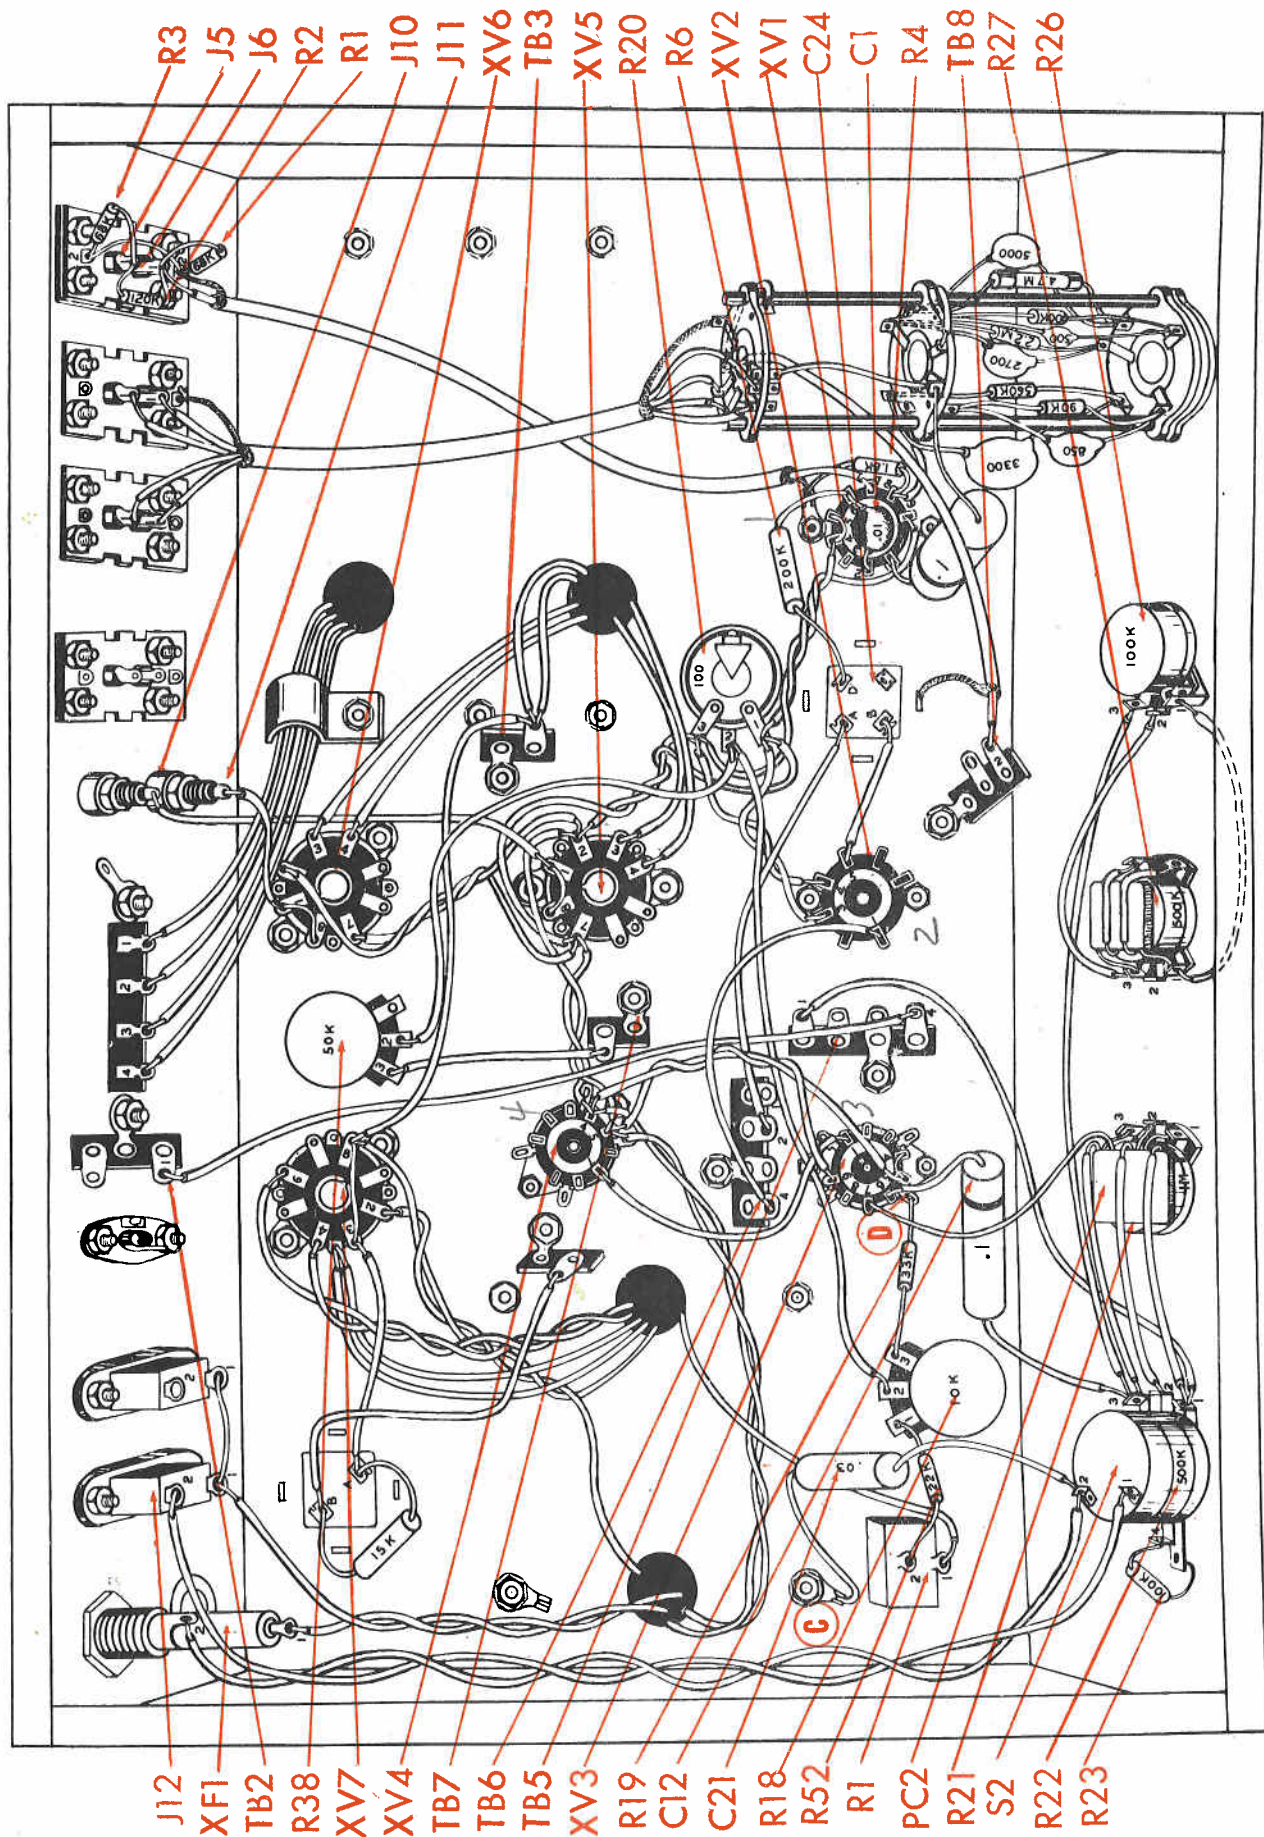

Fig. 5
1. (✓) Fig. 5. Connect an 8" yellow lead from R18-2 (C) to R20-2 (C). X
2. (✓) Fig. 5. Connect a 6 1/2" yellow lead from R20-2 (S) to R38-2 (S). X
3. (✓) Fig. 5. Connect a 4" green lead from XV3-1 (C) to XV4-7 (C). X
4. (✓) Fig. 5. Connect a 3" green lead from R38-3 (C) to TB7 (C). X
5. (✓) Fig. 5. Connect a 3" yellow lead from J10 (S) to XV5-1 (C). X
6. (✓) Fig. 5. Connect a 2" yellow lead from J11 (C) to XV6-1 (C). X
7. (✓) Fig. 5. Connect a 3/4" piece of bare wire from XV6-1 (S) to XV6-8 (S). X
8. (✓) Fig. 5. Connect a 3/4" piece of bare wire from XV5-1 (C) to XV5-8 (S). X
9. (✓) Fig. 5. Connect a 2" red lead from XV2-5 (S) to C24B (C). X
10. (✓) Fig. 5. Connect an 7" green lead from R22-1 (C) to TB5-1 (C). X
11. (✓) Fig. 5. Connect an 8" green lead from R22-3 (C) to R26-3 (S). X
12. (✓) Fig. 5. Connect one end of a 10" black lead to S2-1 (S) and one end of a 9" grey lead to S2-2 (C). Twist the leads. Connect the other end of the black lead to J12-2 (C) and the other end of the grey lead to XF1-2 (C). X
13. (✓) Fig. 5. Connect a 100KΩ (brown, black, yellow, silver) 10% resistor, R23, from R22-4 (S) to pot ground lug "B" (S). Cut both leads to 1/2". X
14. (✓) Fig. 5. Connect a .03 mfd (orange, black, orange, black, blue) molded capacitor, C21, from S2-2 (S) to ground lug "C" (S). Cut both leads to 1 1/4". Use spaghetti. Condenser gets placed vertically in chassis. X
15. (✓) Fig. 5. Connect a 1 mfd (brown, black, yellow, white, yellow) 400 volt molded capacitor, C12, from R22-3 (C) to XV3-6 (C). Use spaghetti on the 1 1/2" lead to R22. Cut the other lead to 1" using spaghetti. X
16. (✓) Fig. 5. Connect a 22KΩ (red, red, orange, silver) resistor, R52, from R18-1 (S) to CR1-2 (C). Cut both leads to 3/4". X
18. (✓) Fig. 5. Connect a 4" green lead from R27-3 (S) to R26-2 (S). X
19. (✓) Fig. 5. Connect a 4" black lead from R26-1 (C) to R27-1 (C). X
20. (✓) Fig. 5. Solder the ground lug under R26 to R26-1 (S). X
21. (✓) Fig. 5. Connect a 1800Ω (brown, grey, red, silver) resistor, R4, from XV1-8 (C) to ground lug "D" (C). Cut both leads to 1/2". (D)?
22. (✓) Fig. 5. Cut an 8" length of single conductor shielded wire. On both ends, strip the outer insulation back 3/4", twist shield braid strands, strip the inner insulation back 1/4". Connect one end of the inner wire to XV1-7 (S) and one end of the braid to ground lug "D" (S). Connect the other end of the inner wire to J6-1 (C) and the braid to J6-2 (C). X
23. (✓) Fig. 5. Connect a 2" black lead from J6-2 (C) to J5-2 (C). X
24. (✓) Fig. 5. Connect a 68KΩ (blue, grey, orange, silver) resistor, R1, from J6-2 (S) to J6-1 (C). Cut both leads to 1/2". X
25. (✓) Fig. 5. Connect a 120KΩ (brown, red, yellow, silver) resistor, R2, from J6-1 (S) to J5-1 (C). Cut both leads to 1/2". X
26. (✓) Fig. 5. Connect a 68KΩ (blue, grey, orange, silver) resistor, R3, from J5-1 (S) to J5-2 (S). Cut both leads to 1/2". X
27. (✓) Fig. 5. Connect a 200KΩ (red, black, yellow, gold) resistor, R5, from XV1-6 (C) to C24D (C). Cut both leads to 1". X
28. (✓) Fig. 5. Connect a .01 mfd disc capacitor, C1, from XV1-6 (S) to XV1-2 (C). Cut both leads to 1/2". X
29. (✓) Fig. 5. Cut leads #2, #3 and #6 on the tone control printed circuit board, PC-2, to 1/2". Cut lead #5 to 1 3/4" and leads #1, #4 and #7 to 3". Lay the board flat against the bass control, R21 with the number on the printed circuit board facing away from the pot. Connect the lead #2 to R21-1 (S), lead #3 to R21-2 (S) and lead #6 to R21-3 (S). Be sure that none of the leads short against the controls. X
30. (✓) Fig. 5. Using 2 1/2" of spaghetti over each of the following 3 leads, connect lead #7 to R22-3 (S), lead #4 to R22-2 (S) and lead #1 to R22-1 (C). X
31. (✓) Fig. 5. Connect lead #5 directly to XV3-7 (S). X